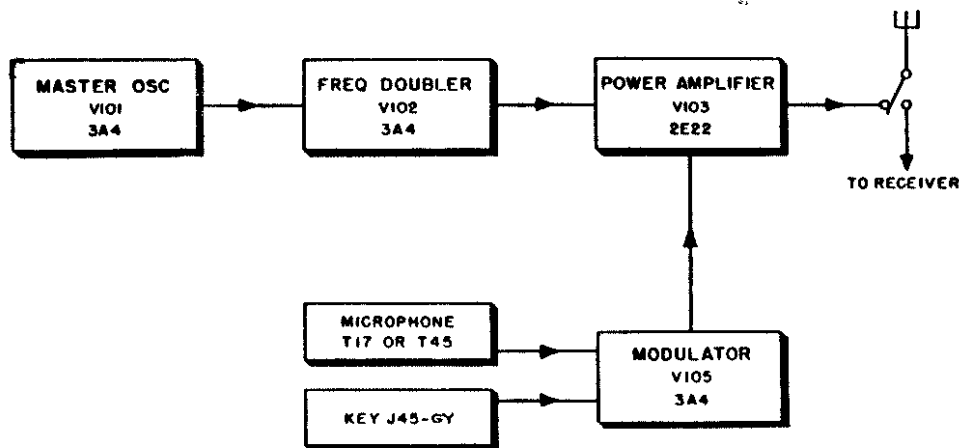

Figure 66. Block diagram of transmitter section of receiver-transmitter RT-77/GRC-9-GY.
89. Block Diagram (fig. 66)
a. GENERAL. The transmitter section of Receiver-Transmitter RT-77/GRC-9-GY consists of a master oscillator, frequency doubler, power amplifier, and modulator circuit as shown in the block diagram (fig. 66). The circuit is designed to provide c-w, mcw, and voice modulated signals over a frequency range of 2.0 to 12.0 mc. As in the case of the receiver, the frequency range is covered in three bands, 2.0 to 3.6 mc, 3.6 to 6.6 mc, and 6.6 to 12.0 mc.
b. BLOCK DIAGRAM (fig. 66). The block diagram shows a master oscillator, which can be either self-excited or crystal-controlled, to supply an r-f signal voltage to the grid of the doubler stage whose plate circuit is tuned to the second harmonic of the input signal. The output of this stage is fed to the grid of the power amplifier stage at a sufficient power level to drive the power amplifier as a Class C amplifier. The modulator circuit supplies the audio power necessary to suppressor grid modulate the power amplifier during phone and mcw operation. The